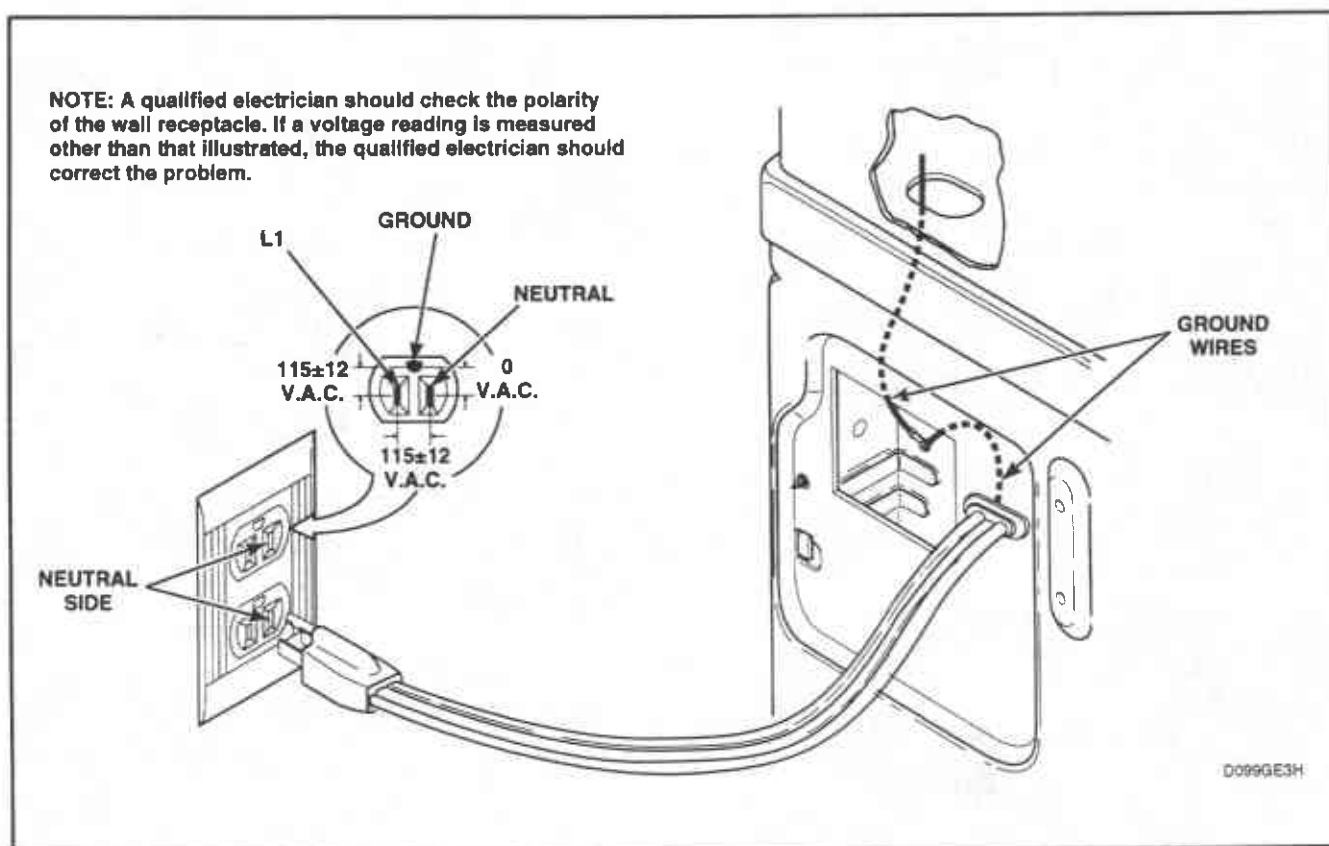

Figure 46
- (1) Remove access plate on rear of cabinet.
- (2) Remove strain relief.
- (3) Remove screw holding power cord ground wire to rear bulkhead, *Figure 46*.